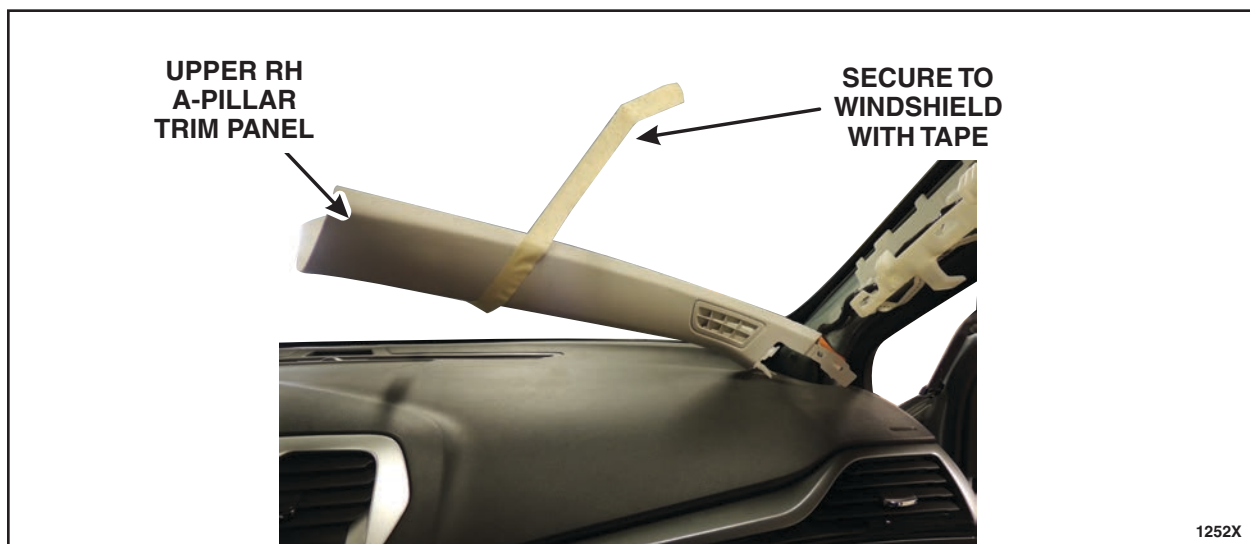

FIGURE 6
6. Partially remove the upper RH and LH A-pillar trim panels leaving the forward clip engaged. Secure the trim panels to the windshield with tape. See Figure 6.
NOTE: Tape A-pillar trim panel to the windshield as indicated in Figure 6 to reduce the stress in the area around the forward clip attachment.